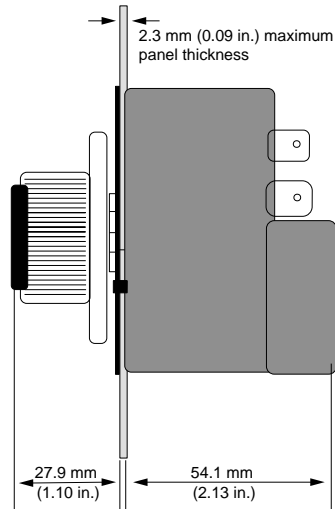

Figure 2a — Series 101 side dimensions.
1. Remove the setpot knob and the dial scale from the Series 101 control. See the side view in Figure 2a.